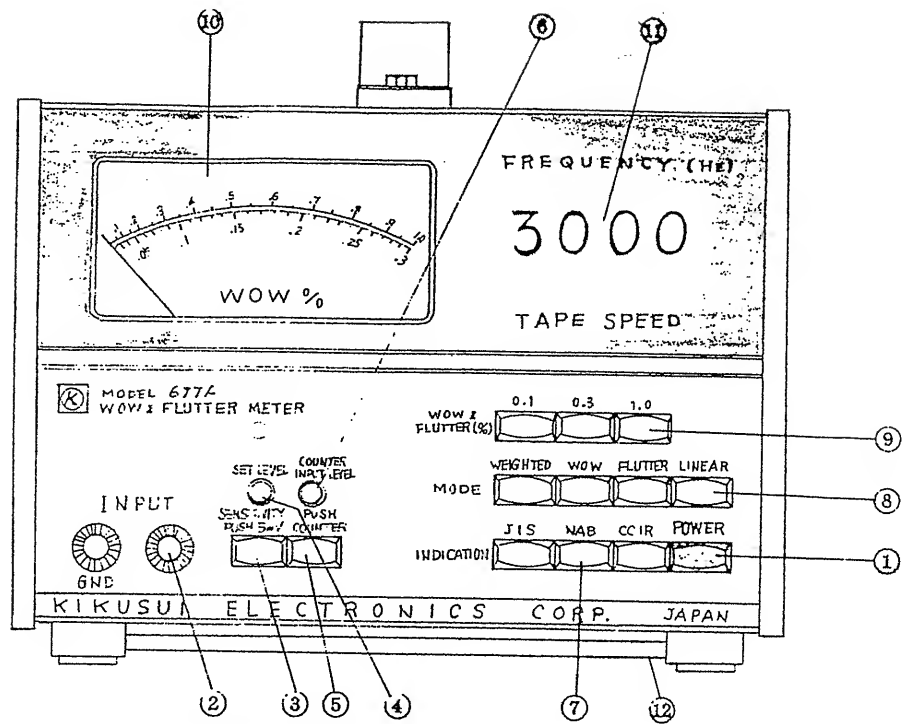

Fig. 3-1 Front panel layout
3.1 EXPLANATION OF FRONT PANEL (See Fig. 3-1.)